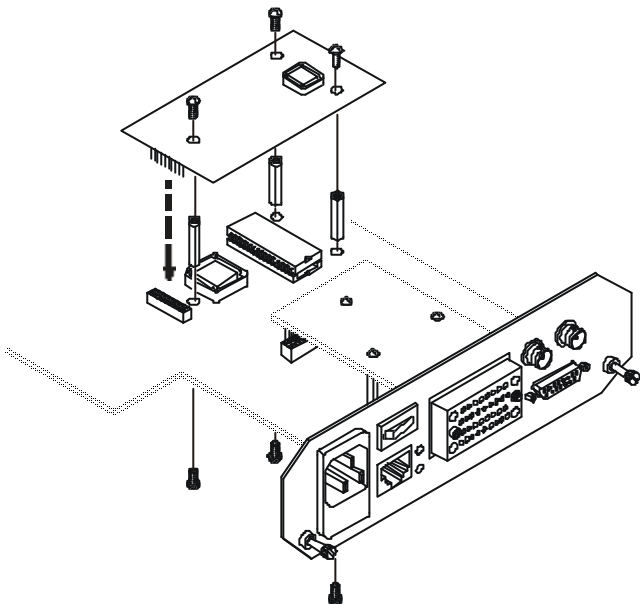

Figure 6-2: SNMP Installation Exploded View
3. Refer to Figure 6-2, the SNMP Exploded view. Apply thread-lock to three mounting screws and attach the three brass standoffs to the main PCB as shown. The standoffs are to be located on the component side of the main PCB.
6. Use the remaining 3mm screws to hold down the SNMP card. Do not over-tighten, just tighten snug. Apply Glyptol™ to the hold down screws at your discretion. Refer to the exploded view Figure 6-2.